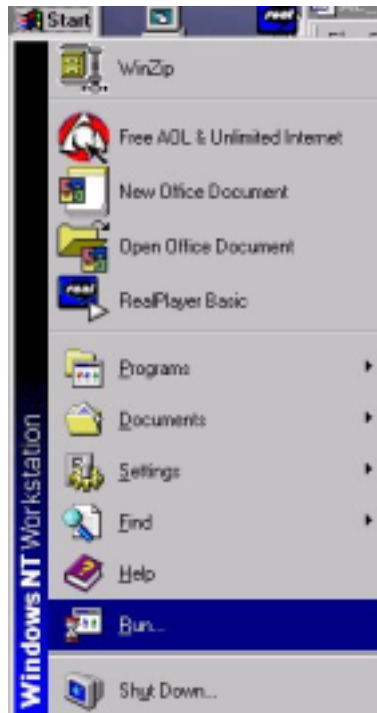

Figure 1-1 Start -> Run
1. Click **Start -> Run** as shown in Figure 1-1: